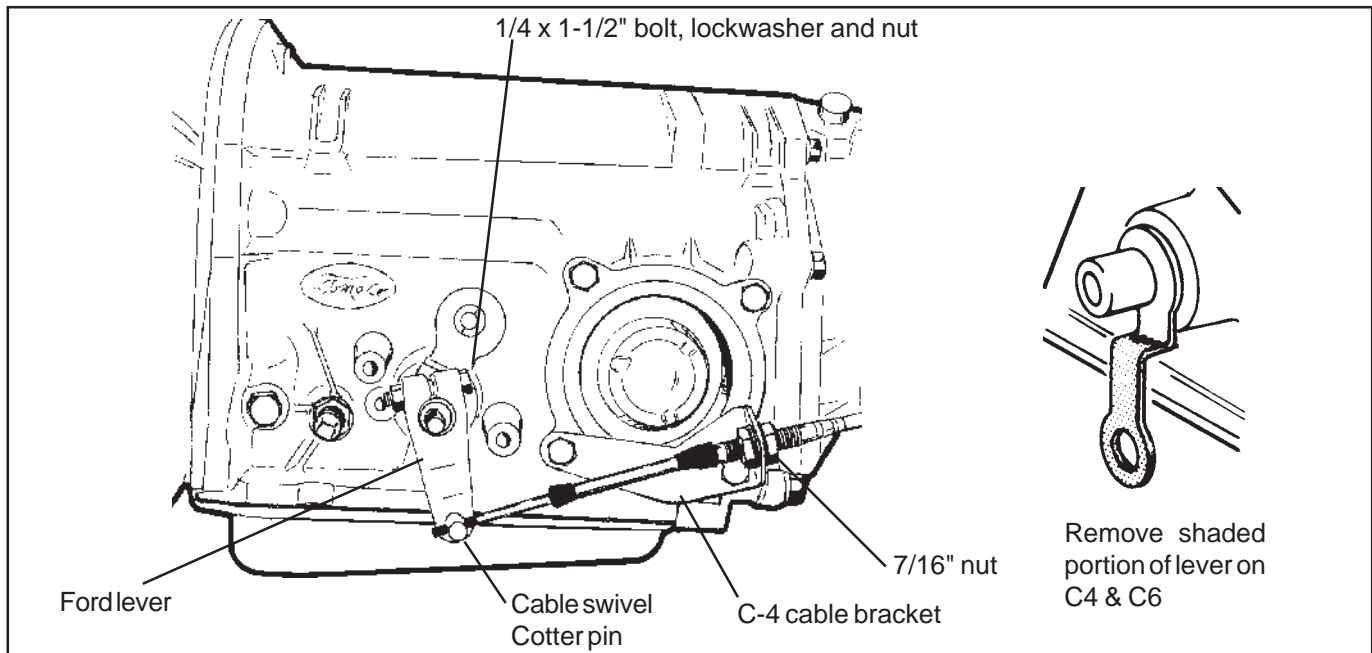

Figure 5
**STEP 14.** Install the **B&M** selector lever (See **Figure 5 or 6**). Note: The **B&M** lever must point downward for proper operation. If the stock shift lever on your transmission points down,
you will have to remove the lower part of the stock arm by cutting it off to clear the **B&M** lever (See **Figure 5**). Install the **B&M** selector lever onto the shift shaft of the transmission. Align the **B&M** selector lever so when it points straight down it travels equal arcs in both directions from the center, then tighten the 1/4"-20 x 1 1/2" pinch bolt and the nut. The lever should travel smoothly from front to back with a positive click in each gear position. Make sure the o-ring is in position on the downshift shaft and install the downshift lever in position on the shaft. Install the lockwasher and the nut and tighten securely. The downshift lever must operate smoothly. Reconnect the down-
**C-4, C-5:** Remove the two lower bolts from the rear servo cover. Install the cable bracket in position (See Figure 5). Install the two servo cover bolts as removed and tighten to 12-13 lb. ft. Do not overtighten as this can distort the servo cover.